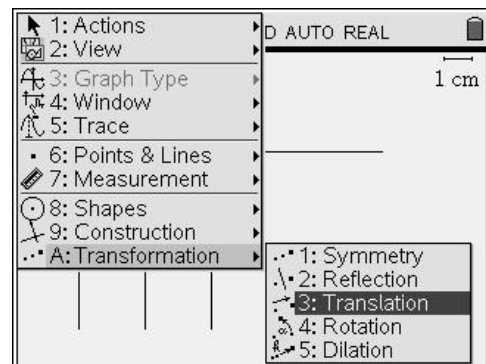

Figure 11
11. Next construct the bottom of the circle by translating the top of the circle. Press menu A 3 for Menu, A:Transformation, 3:Translation. (Figure 11)